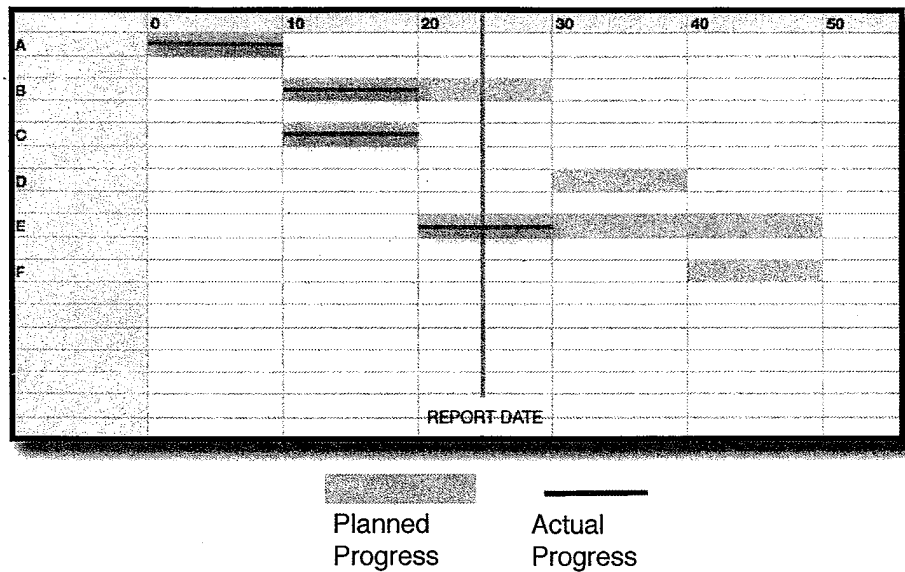

Figure 1
2. A construction progress is shown as in Figure 1 and Table 2.
4. Please solve the network in Figure 1 by the Brooks method (25%)